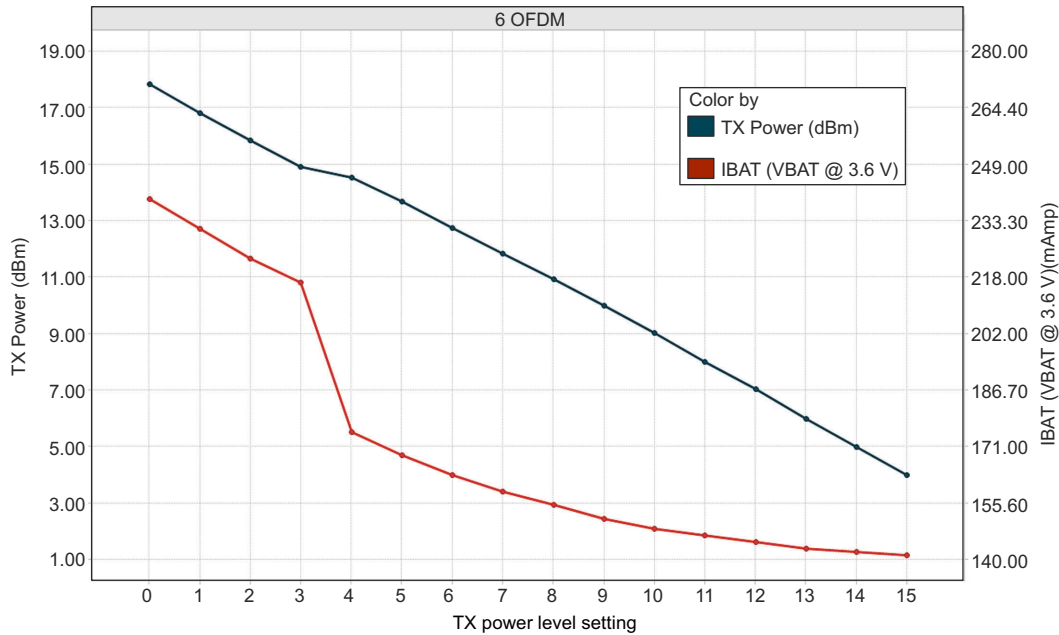
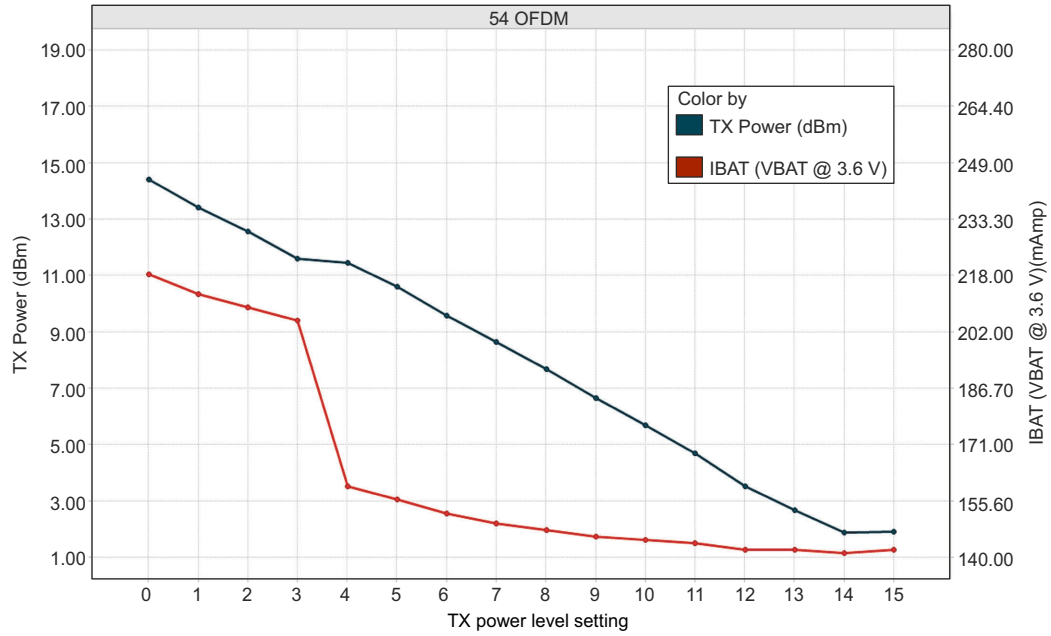

图 8-2. TX Power and IBAT vs TX Power Level Settings (6 OFDM)
图 8-3. TX Power and IBAT vs TX Power Level Settings (54 OFDM)
- (1) TX power level = 0 implies maximum power (see 图 8-1, 图 8-2, and 图 8-3). TX power level = 4 implies output power backed off approximately 4 dB.
- (2) DTIM = 1
- (3) The complete calibration can take up to 17 mJ of energy from the battery over a time of 24 ms. In default mode, calibration is performed sparingly, and typically occurs when re-enabling the NWP and when the temperature has changed by more than 20°C. There are two additional calibration modes that may be used to reduced or completely eliminate the calibration event. For further details, see CC3120, CC3220 SimpleLink™ Wi-Fi® and IoT Network Processor Programmer's Guide.
- (4) The CC3120R system is a constant power-source system. The active current numbers scale based on the V_{BAT} voltage supplied.
- (5) For the 1.85-V mode, the hibernate current is higher by 50 µA across all operating modes because of leakage into the PA and analog power inputs.
- (6) The RX current is measured with a 1-Mbps throughput rate.